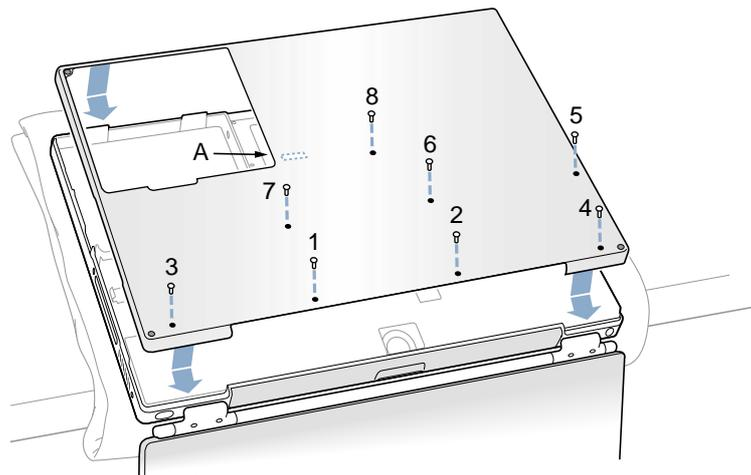

Figure 13
4. Replace the eight screws in the order shown in the illustration (**Figure 13**). Do not overtighten the screws or damage could result.